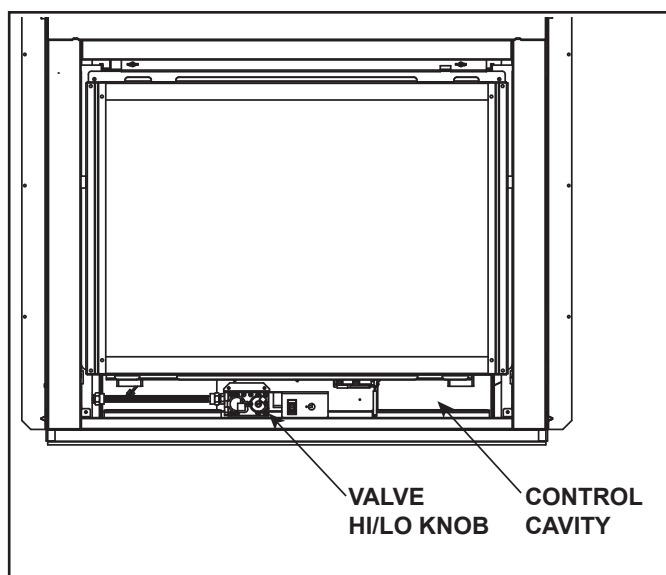

Figure 3.3 Control Cavity/Valve Location
The DV3732 model has a variable burn rate which is controlled by the HI/LO knob on the gas valve. Therefore the flame height is adjustable. The HI/LO knob is shown in Figure 3.3. It is located in the control cavity of the appliance. The HI/LO knob may be adjusted as desired by turning counterclockwise to the HIGH position and by turning clockwise to the LO position. The flame height may also be adjusted using a remote control.
The IntelliFire intermittent pilot ignition system comes with a battery backup system that enables the system to operate in a power outage. A factory-installed battery pack is located in the control cavity of the appliance. See Figure 3.3. Batteries should not be placed in the battery tray while using electrical power to operate the fireplace. Remove batteries from battery tray when power has been restored.
1. Access the control cavity of the appliance. See Figure 3.3 for location. The decorative front or door may need to be removed.